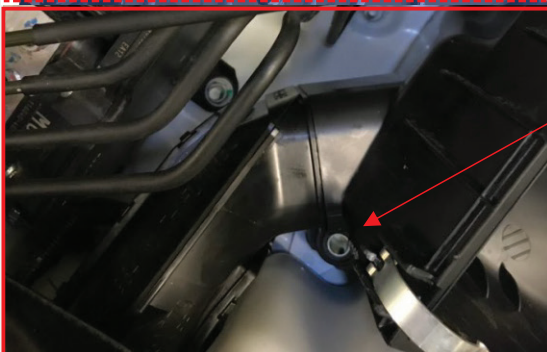

FIGURE 1C
- 4 Remove the rear airbox mounting OEM bolt & washer shown in FIG. 1C, page 6.